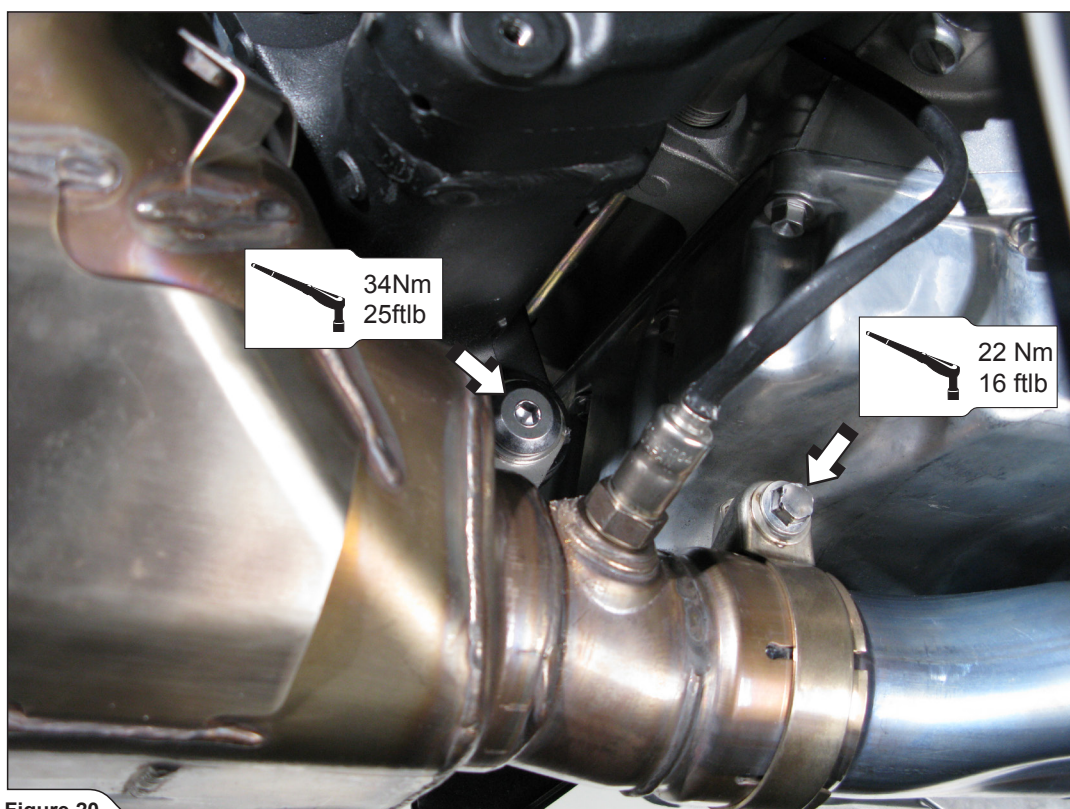

Figure 20
✂ INSTALLATION TIP: in case, the muffler bracket's hole doesn't align with original muffler mounting point, please refer to point 10. - figure 20.
10. In case, the muffler bracket's hole doesn't level with original muffler mounting point, untighten metal clamp at the collector-headers connection and collector hanging bracket. Adjust the collector together with Akrapovič muffler, until the muffler bracket aligns with original muffler mounting point. Retighten the metal clamp at the collector-headers connection and collector hanging bracket to the specified torques (**Figure 20**).